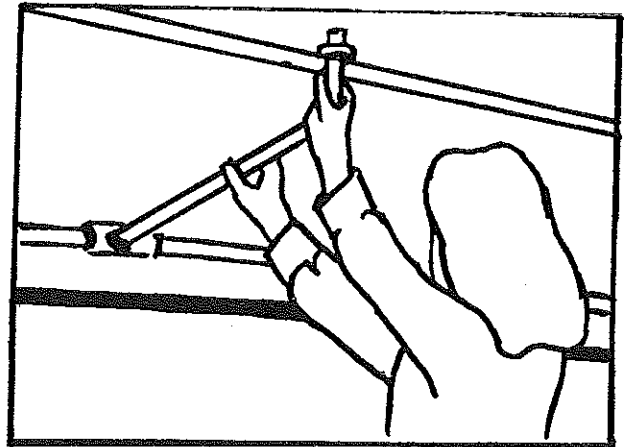

FIGURE 30
41. To completely support the tent enclosure over the bed (front and rear), attach the bed bow support by inserting the straight end into the bed bow. Insert the rounded end of the bed bow support into the roof retainer. (See Figure 30.)
11. Detach both front and rear bed bow supports from the roof retainer and from the bed bow. Lay the bed bow supports under each mattress. See Figure 30.